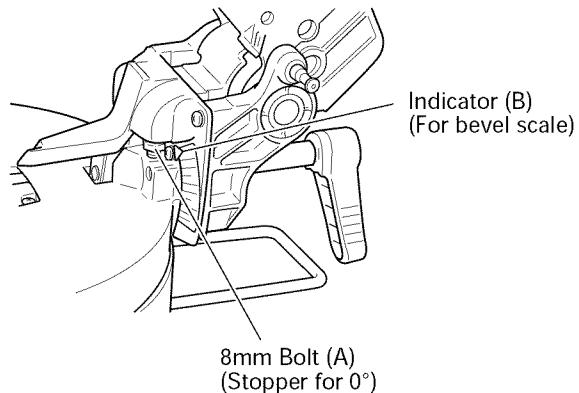

Fig. 8-a
When changing the adjustment, change the height of the 8mm bolt (A) or the 8mm bolt (B) by turning them. (Fig. 8-a, Fig. 8-b)